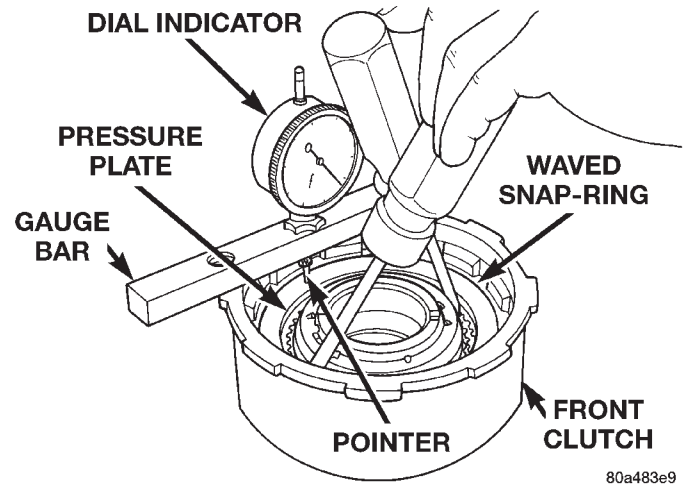

Fig. 139 Measuring Front Clutch Pack Clearance
(10) Using a suitable gauge bar and dial indicator, measure clutch plate clearance (Fig. 139).
(a) Position gauge bar across the clutch drum with the dial indicator pointer on the pressure plate (Fig. 139).